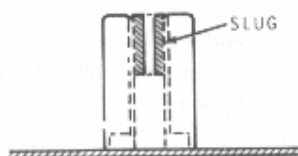

Figure 8
- () With the alignment tool, turn the slug in coil L107 counterclockwise until the top of the slug is level with the top of the housing, as shown in Figure 8.